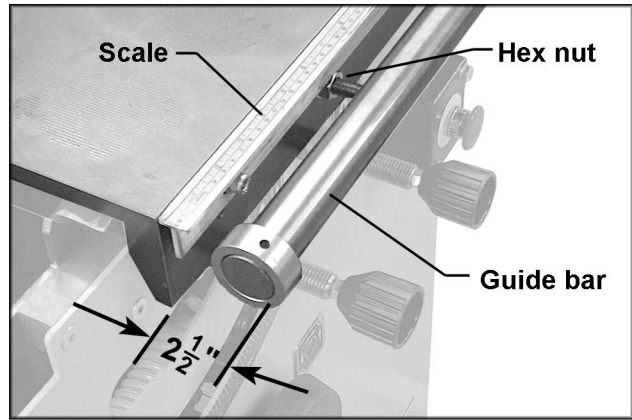

FIGURE 11
1. Mount the scale (Fig. 11) to the edge of the cast iron table with three M8 x 30 socket head screws, M8 flat washers, and spacers.